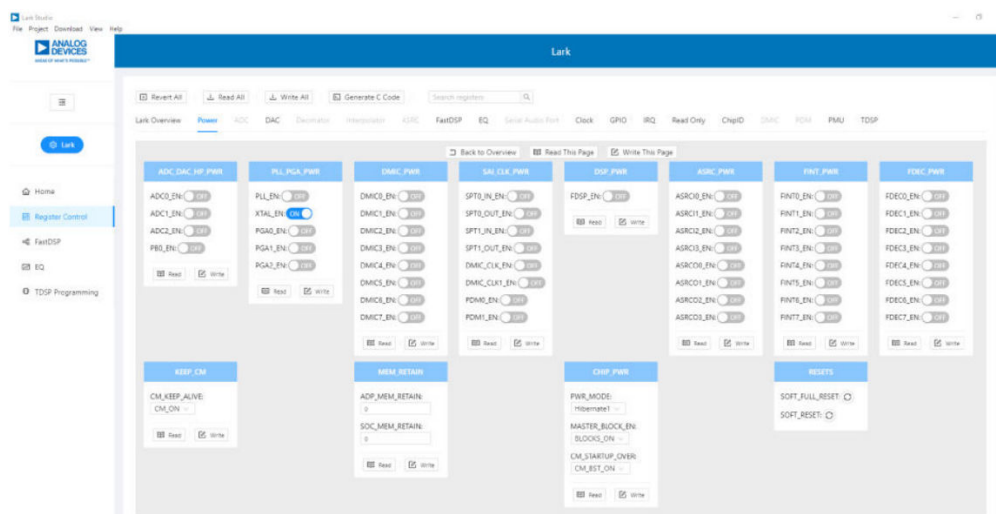

Figure 5. Register Configurations
Configure the **Register Control**, **FastDSP**, and **EQ** settings on the left navigation panel. **Lark Register Control** has multiple tabs that control different sections of the ADAU1861. **Figure 5** shows the **Power** tab, which allows the user to power up or power down various blocks within the ADAU1861. When a block is powered up, that block can be configured.
1. Select **Hibernate1**, **BLOCKS\_ON**, and **CM\_BST\_ON** in the **CHIP\_PWR** block in the **Power** tab, and then click **Write** (see **Figure 5**).